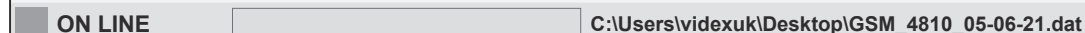

Fig. 131
- **FILE OPEN (ON LINE):** see **Fig.131**, this indicates that an imported or recently saved **.dat** GSM file is open or has just been opened.